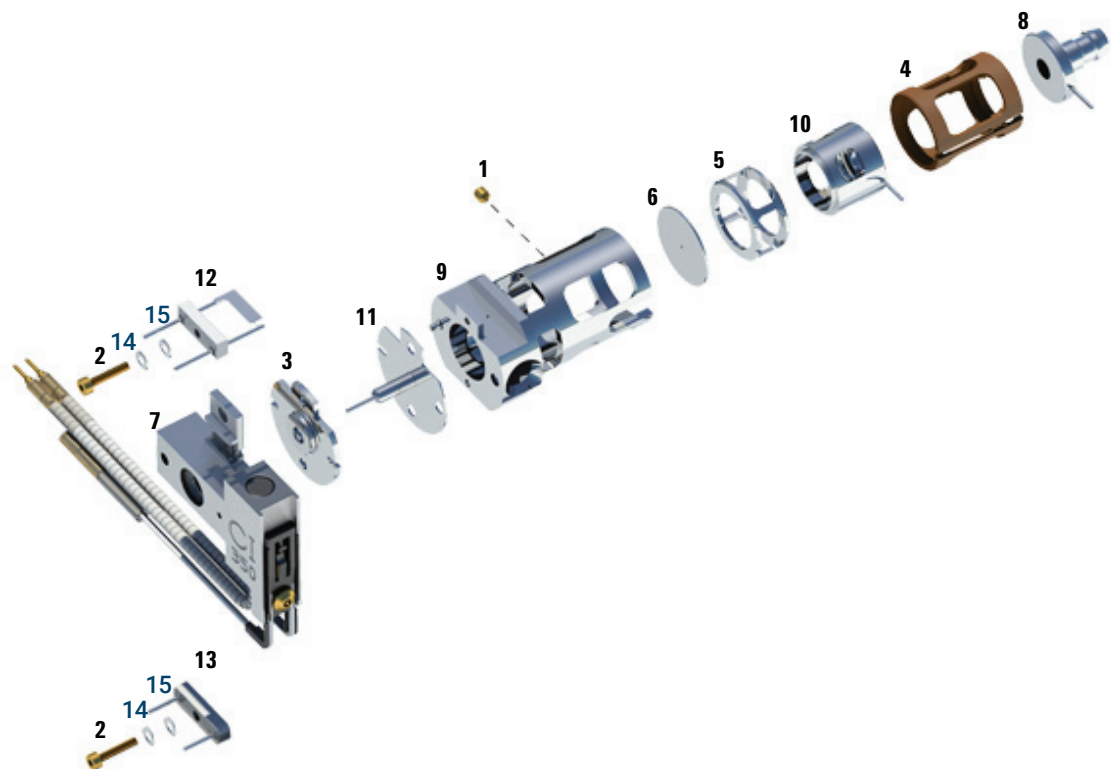

Figure 81. CI source exploded view
Refer to the exploded parts view and the CI source parts list while using this procedure. (See Figure 81 and Table 23 on page 246.)
- 1 Assemble the ion focus lens, entrance lens, and lens insulator. (See Figure 81 and Table 23 on page 246.)
- 2 Slide the drawout plate and the drawout cylinder into the source body. (See Figure 81 on page 246.)
Table 23 Parts list for CI source (Figure 81)
Table 23 Parts list for CI source (Figure 81) (continued)